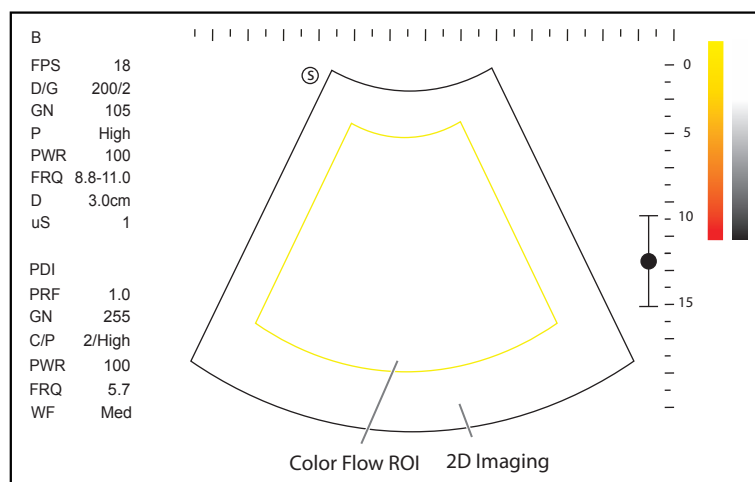

Figure 6-7 PDI-Mode Imaging Screen
2. Tap **PDI** on the touch screen or press the **PDI** key on the keyboard to enter the PDI mode. The basic screen is shown in Figure 6-7.